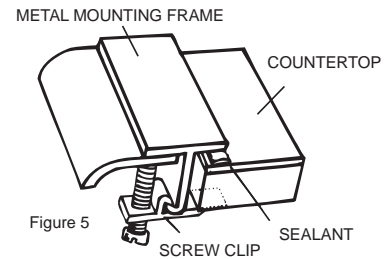

Figure 5
13. Place the four screw clips around the lavatory so that the clips lock onto the metal mounting frame as shown in Figure 5. Tighten the screws on the clips evenly all around. Check the edges for additional sealant and remove it immediately with a damp cloth.